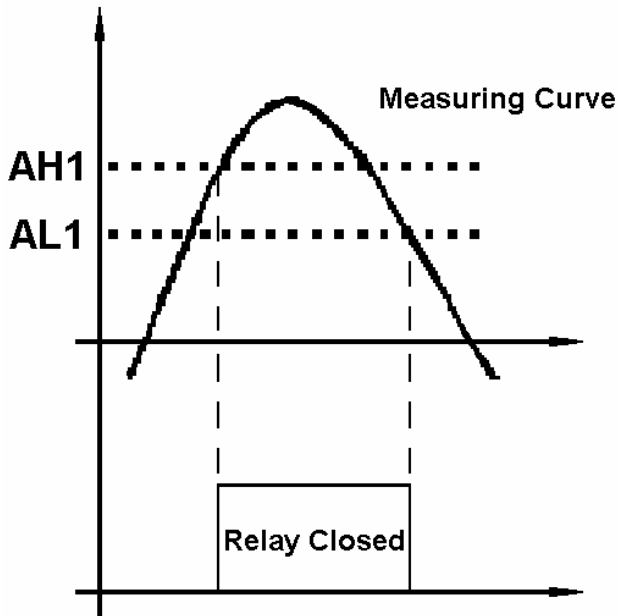

Figure 4
- b) Set $AH1 > AL1$: Normally used for upper limit alarm trigger. See Figure 4.